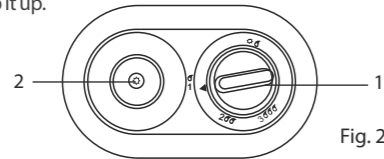

Fig.2
Control panel (fig. 2)
2. Press and slowly turn the gas control knob on the control panel to I position (Fig.2). Keep the gas control knob pressed for 20-30 seconds. At the same time, press the piezo-ignition button several times, until the pilot lights up. Every time you press the piezo-ignition button, you can hear a loud click and see a spark on the piezo-ignition electrode. Continue keeping the gas control knob pressed for 10-15 seconds after ignition of the pilot flame in order to activate the flame detector.